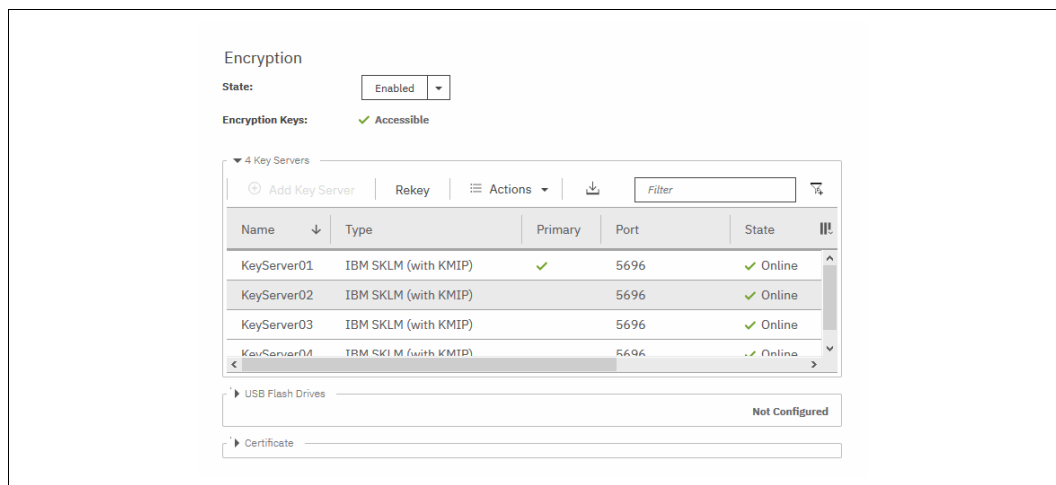

Figure 12-37 Encryption that is enabled with only IBM Security Key Lifecycle Manager servers as encryption key providers
12. Confirm that encryption is enabled by selecting **Settings** → **Security** → **Encryption**, as shown in Figure 12-37. The **Online** state that indicates which IBM Security Key Lifecycle Manager servers are detected as available by the system.